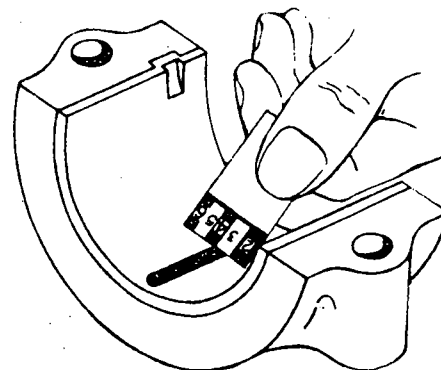

Fig. 6
- f) Remove the same cover again and compare the expanded strip with the graduated scale card, according to specification (fig. 6).